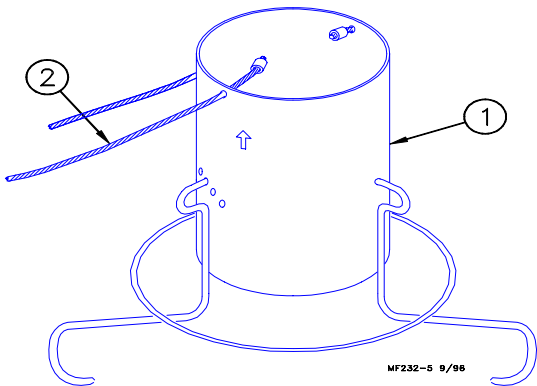

Figure 46.
7. Install two cable assemblies at each feed level tube (if the cable assemblies have not yet been installed). The cable stop should be on the inside of the feed level tube and pulled up tight against the inside. See Figure 46.